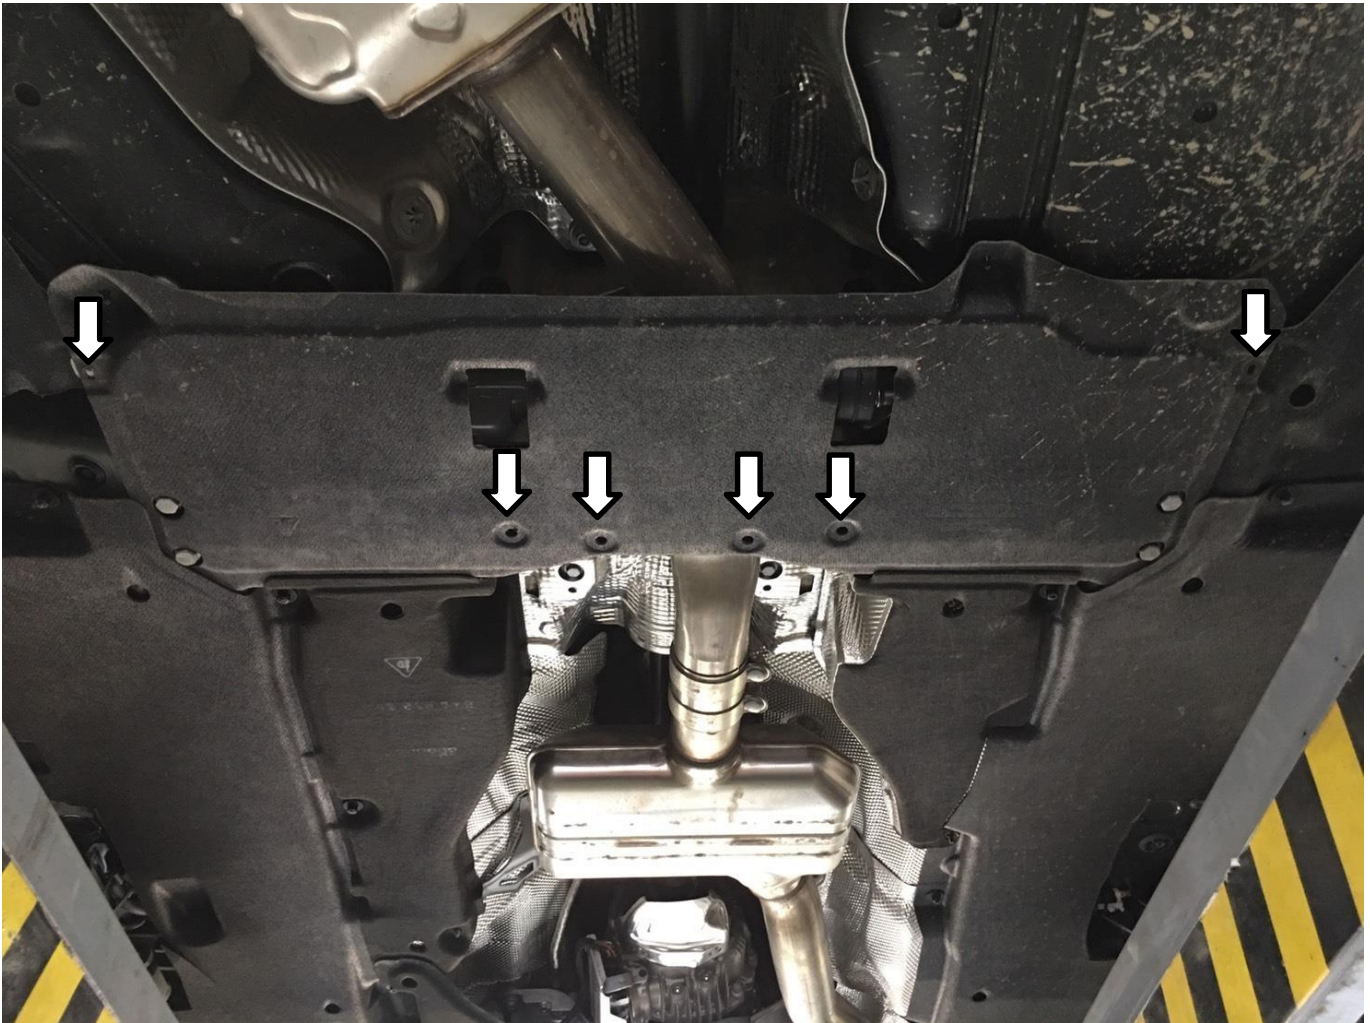

Fig. 1
1. Remove the front pipe lower guard.(Fig.1)